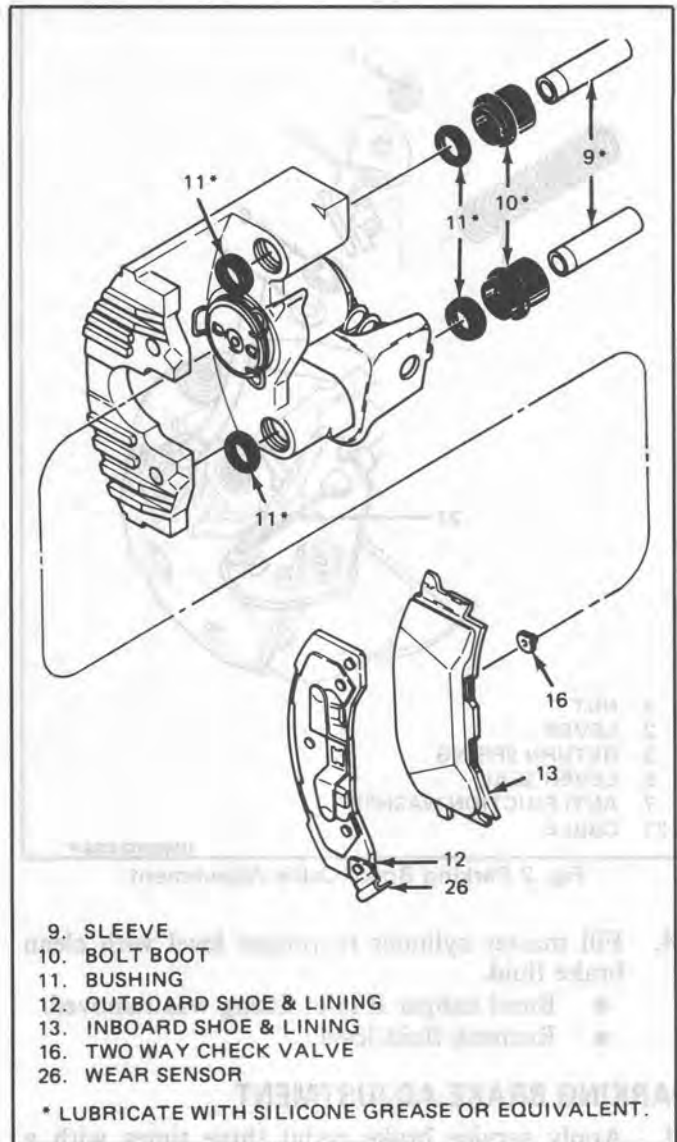

Fig. 6 Shoe and Lining Assembly
Figures 6 through 9
2. Outboard shoe and lining (12) (Figure 6).
- Use screwdriver to disengage buttons on shoe from holes in caliper housing (25).
3. Inboard shoe and lining (13) (Figure 6).
4. Bushings (11) from grooves in mounting bolt holes (Figure 6).
4. Outboard shoe and lining (12) with wear sensor (26) at leading edge of caliper during forward wheel rotation. Back of shoe must lay flat against caliper (Figure 6).